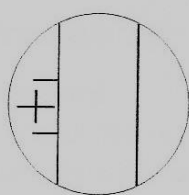
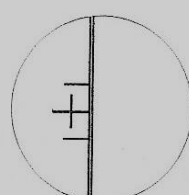

Fig.6
Fig.7
3.4.11 Rotate the turntable counter-clockwise to place the 20[×] objective in front of the main body. Turn the drum wheel on both left and right side of micro eyepiece, so that the operator could see the two graduated lines move closely as shown in Fig 6. Continue turning eyepiece until the inner sides of graduated lines reach critical state with no space between them to allow the light to penetrate as shown in Fig 7. Now press the SPEC key and then press "CLR-D" key to clear the zero, at this point, it has finished to set zero for the eyepiece, the values of D1 and D2 will show 0.00 on the LCD screen.